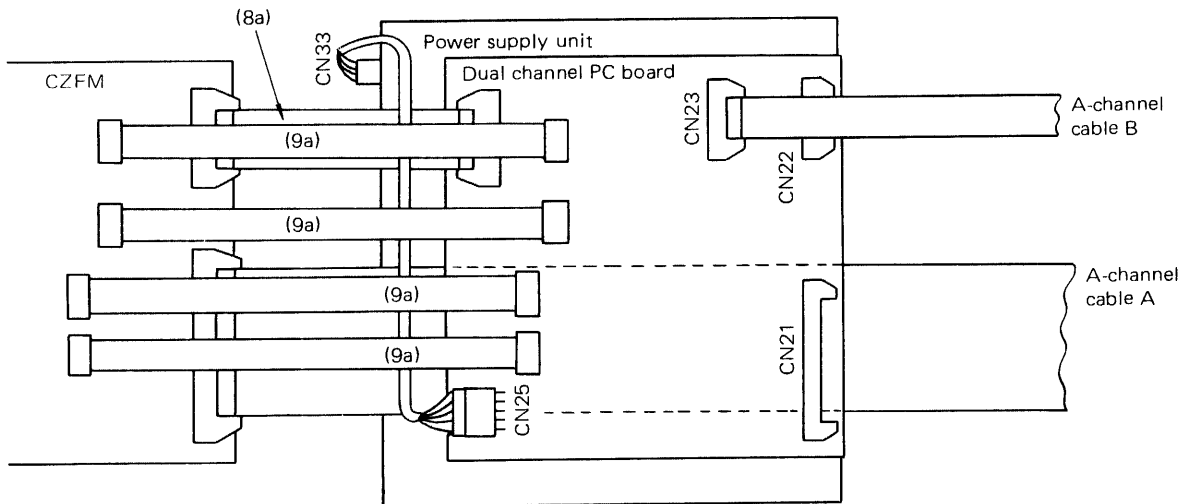

Figure 3-5-16 Dual Channel Cabling
- (G) Connect CN25 on the PC board and CN33 on the power supply unit with the connection cable (B660-0625-T329A). (See Figure 3-5-16.)
- (H) Connect interface cables (8a and 9a) between the drive unit (CZFM) and the dual channel PC board.
- (I) Connect the A-channel cable B to the PC board, and pull the cable out behind the power supply unit.
- (J) Remove the dual channel PC board from the rails and connect the A-channel cable A to the drive unit (CZFM), and pull the cable out under the dual channel PC board and behind the power supply unit.
- (K) Connect B-channel cables A and B to the back of the PC board (CN21 and CN22) and pull them out behind the power supply unit.
- (2) Connect the drive unit (CZFM) to the PC board via the cable as shown in Figure 3-5-16.
- (3) Insert cover between frame and the equipment from the front of the equipment, and fix cover.
- (4) Fix the frame with PCB with two screws (SBD M3 x 5).
- (5) Connect A-channel cable B (CN23).
- (6) Attach cover 3b in the frame and fix with screw (SBD M4 x 6).
- (7) Connect all other interface cable to channels A and B.
- (8) When mounting the optional fan unit to the drive unit, fix the interface cable with the attached cable clamp.